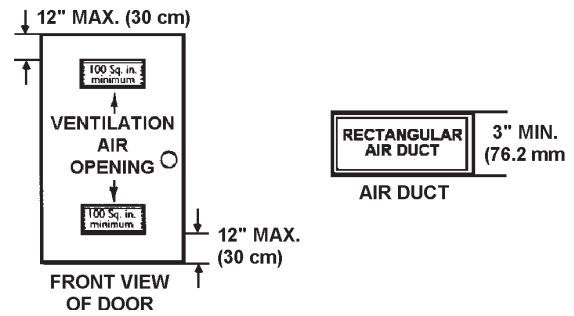
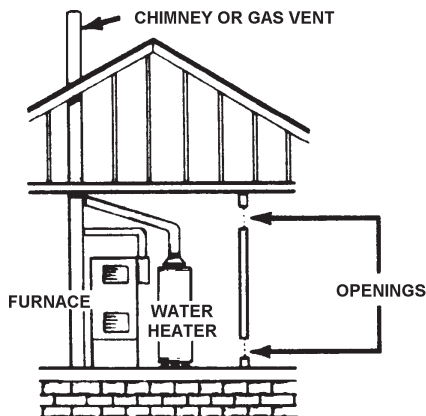

FIGURE 9.
FIGURE 10.
A gas water heater cannot operate properly without the correct amount of air for combustion, see Figure 9. Do not install in a confined area such as a closet, unless you provide air as shown in the *Combustion Air and Ventilation for Appliances Located in Confined Spaces* section. Never obstruct the flow of ventilation air. If you have any doubts or questions at all, call your gas supplier. Failure to provide the proper amount of combustion air can result in a fire or explosion and cause death, serious bodily injury, or property damage.
(See Figure 9 and Figure 10)
B. ALL AIR FROM OUTDOORS: (See Figures 9, 11,12 and 13)